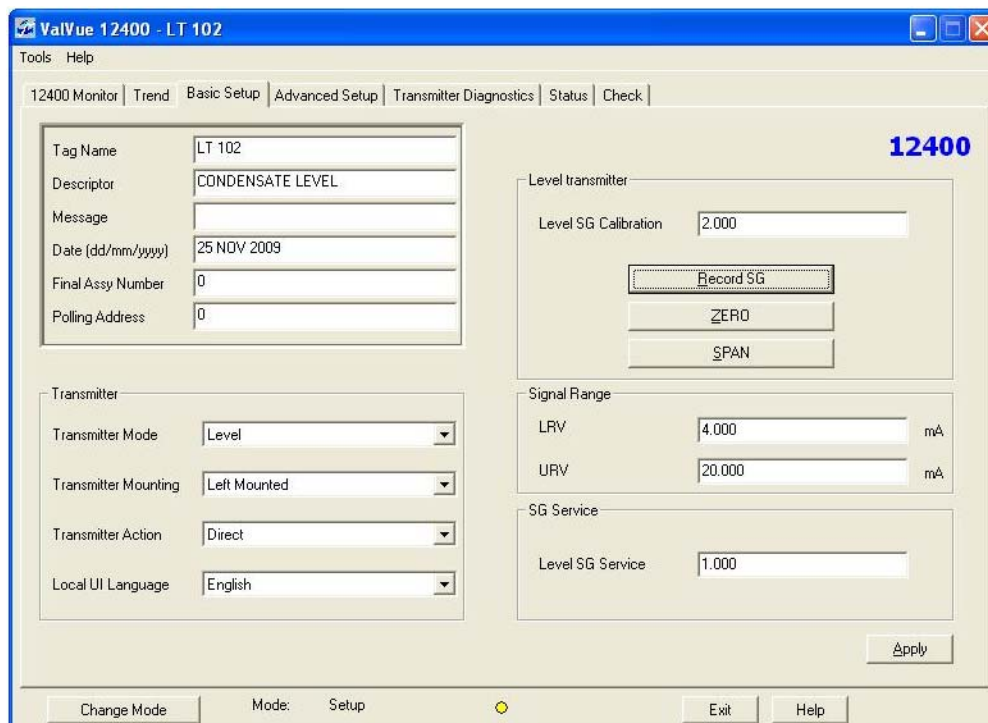

Figure 148 Saving New SG Calibration
2. Click **Record SG** (Figure 148).